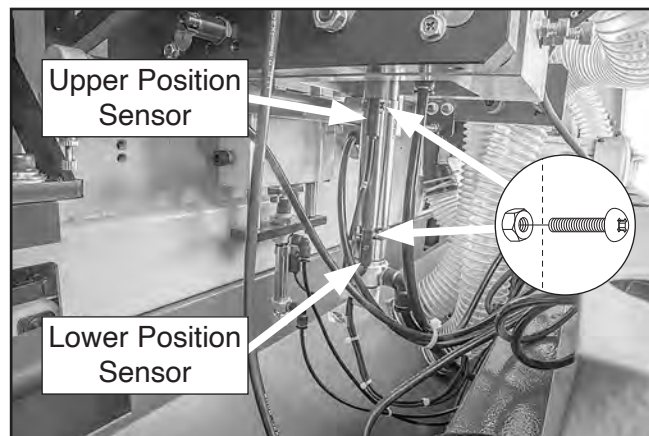

Figure 101. Location of end trimmer position sensors.
3. Lift end trimmer motor all the way to top, and check upper position sensor (see **Figure 101**).